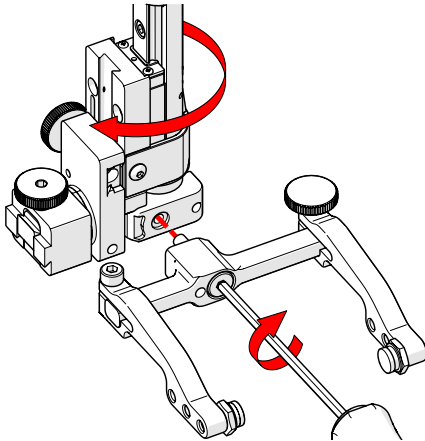

Fig. 191 - Screw yoke to opposite side
6. Mount the yoke to the opposite side of the base using the supplied 3 mm hex driver (Fig. 191).